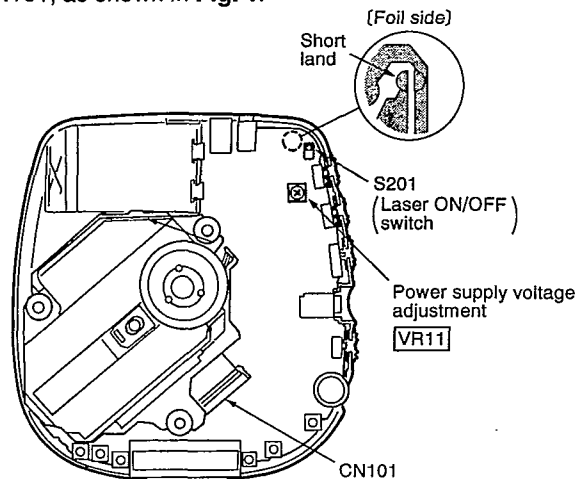

Fig. 1
Short-circuit the lands of the laser ON/OFF switch (S201) by soldering them. It turns “ON” position. (Refer to below Fig. 1 or printed circuit board and wiring connection diagram for short land location on page 25.)
2. Take care to connect CN101, as shown in Fig. 1.
4. Adjust **VR11** on the P.C.B. at  $3.32 \pm 0.02$  V, as shown in **Fig. 1**.